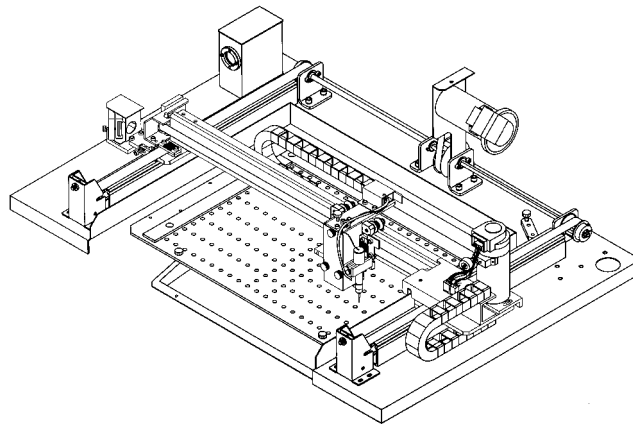

Figure 2 Top view of motion system
- Motion System (see Figure 2)